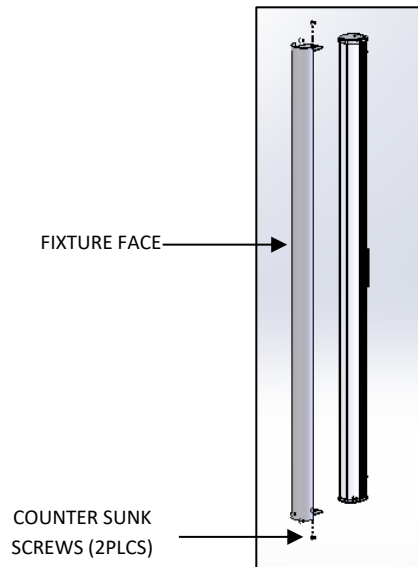

FIG. 5 – FIXTURE FACE DISASSEMBLY
2. Remove the FIXTURE FACE by unscrewing the SCREW on each end as shown in FIG. 5.